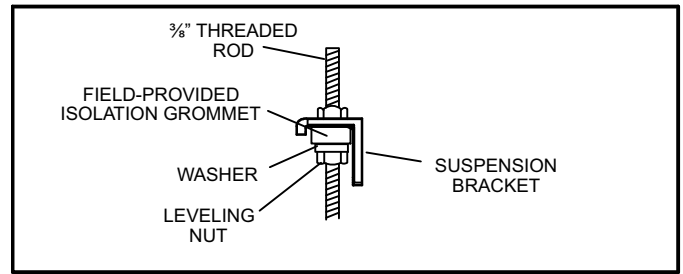

**Figure 2. Suspending Methods**
install anchors to accept four 3/8" threaded rods to suspend the indoor unit. If the structural ceiling includes wooden joists, use angle iron or Unistrut channel fixed securely in place to accept the 3/8" threaded rods. See figure 2.
- 3 - Slide one nut and one washer onto each threaded rod. Use electrical tape to keep the washer from falling off. Position the nuts slightly above the final resting place of the four suspension brackets. See figure 2.